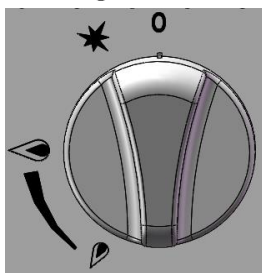

Fig. 2
①Align the control valve knob on the "0" position (Fig.2), so that the valve is closed.